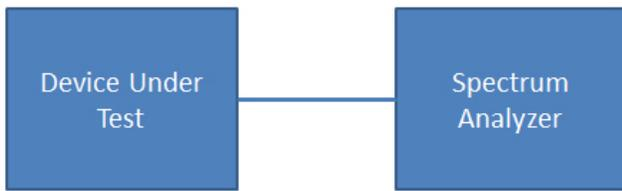

Figure 10. Test set-up for most un-triggered P25 measurements.
- **Connectivity:** The user needs to connect the output of the Device Under Test (DUT) to the RF input of the Spectrum Analyzer as shown in Figure 10.
■ **Connectivity:** The user needs to connect the output of the DUT to the RF input of the Spectrum Analyzer as shown in Figure 10.
- **Connectivity:** The test setup is similar to Figure 10; the DUT is connected directly to the Spectrum Analyzer.